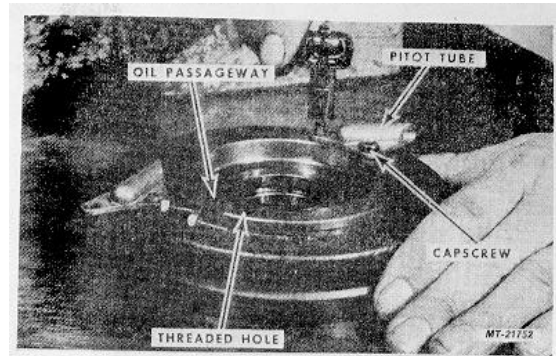

Fig. 60
23. Install Pitot Tubes with #10-24 Capscrews. Use a small amount of Loctite #242 on the thread of each capscrew and tighten each capscrew to 49 in. lb. (4 ft. lbs.) maximum, Fig. 60. DO NOT OVERTIGHTEN